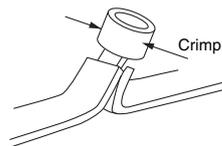
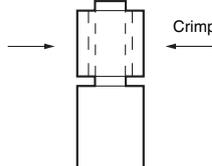

Figure 5
Figure 8
- (c) Pull the sleeve over the wires and crimp in the directions shown in Figure 5 and Figure 8. Pull on the wire to check whether the crimping is effective.
Crimp in the directions as shown in Figure 5 and Figure 8.